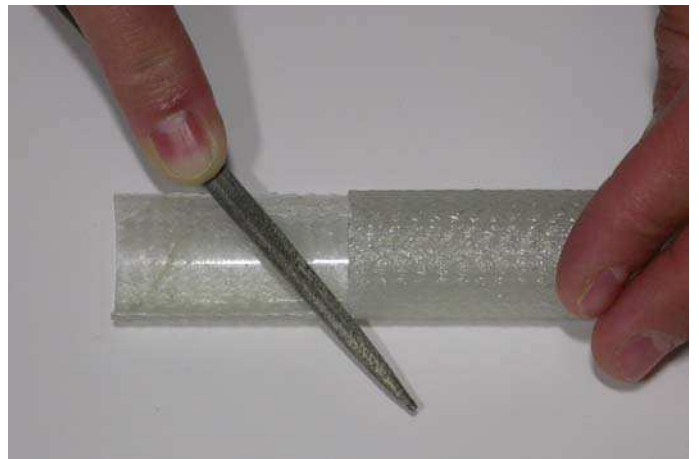

Fig.77: Remove the roughness.
- using a flat file, remove all the roughness (see figure 77);